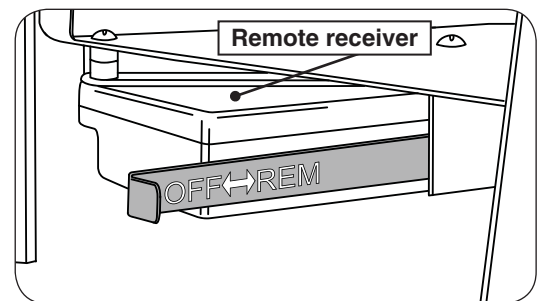

Fig. 35-2
2. Locate the OFF/REMOTE slide actuator on the left rear of the burner. Slide the actuator to the right / **REMOTE** position. See Fig. 35-2.